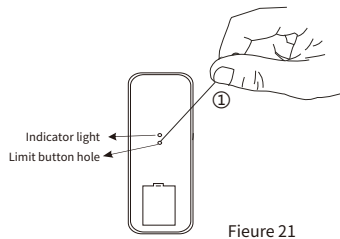
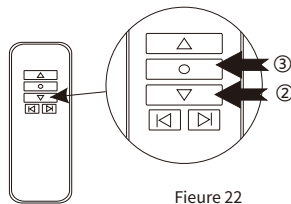

Figure 21
Figure 22
b. Use a small paper clip or small round needle to insert the electronic positioning setting key hole of the elevator on the back of the remote control (as shown in Figure 21, press the electronic positioning setting key of the elevator, the red and blue LEDs will light up, and then press the elevator Rack down button, at this time after the lifting frame is lowered to a suitable position, press the stop button of the remote control as shown in Figure 22, and then press the electronic positioning setting button of the lifting button, the red and blue light-emitting diodes are off, and the lifting frame moves up and down. The electronic lower limit setting of the lifting frame is completed.